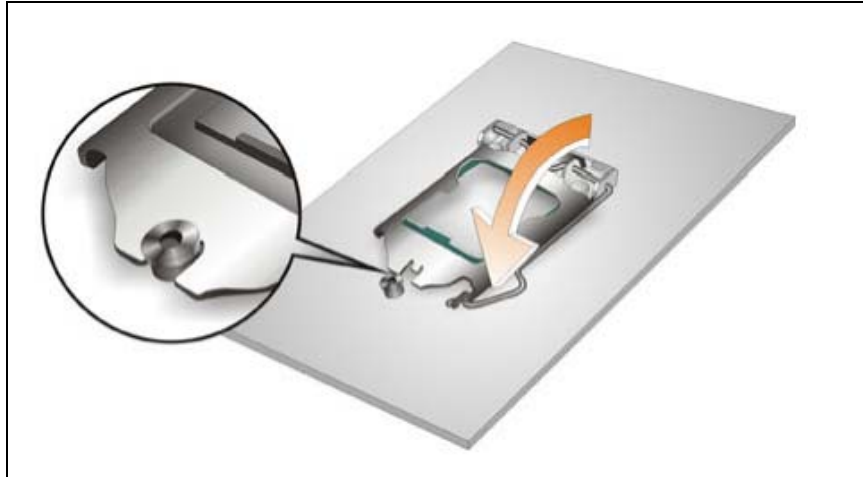

Figure 4-4: Close the Socket LGA1155
- Step 8: Close the CPU socket.** Close the load plate and pull the load back a little to have the load plate be able to secure to the knob. Engage the load lever by pushing it back to its original position. See **Figure 4-4**. There will be some resistance, but will not require extreme pressure.